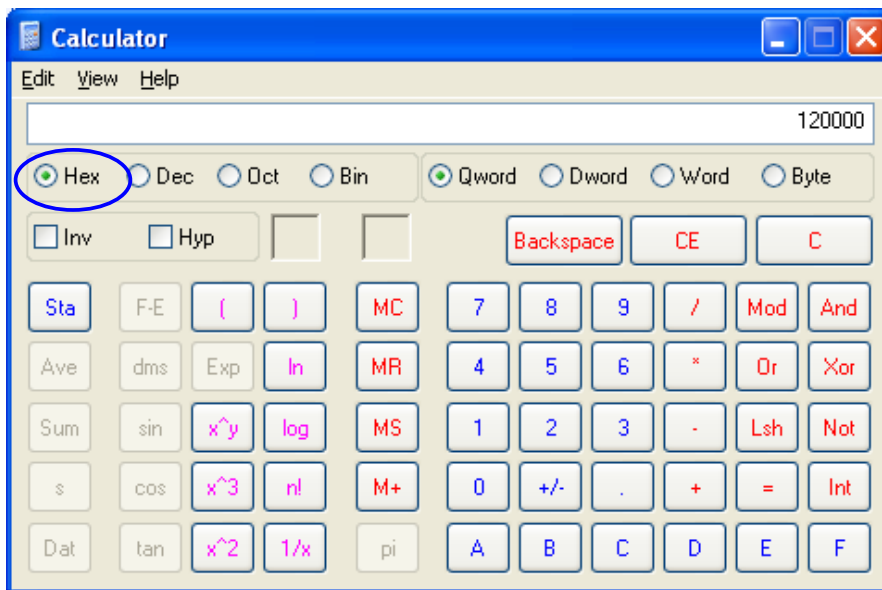

Figure 144
- The outcome in Hexadecimal will be 120000 (See Figure 144)